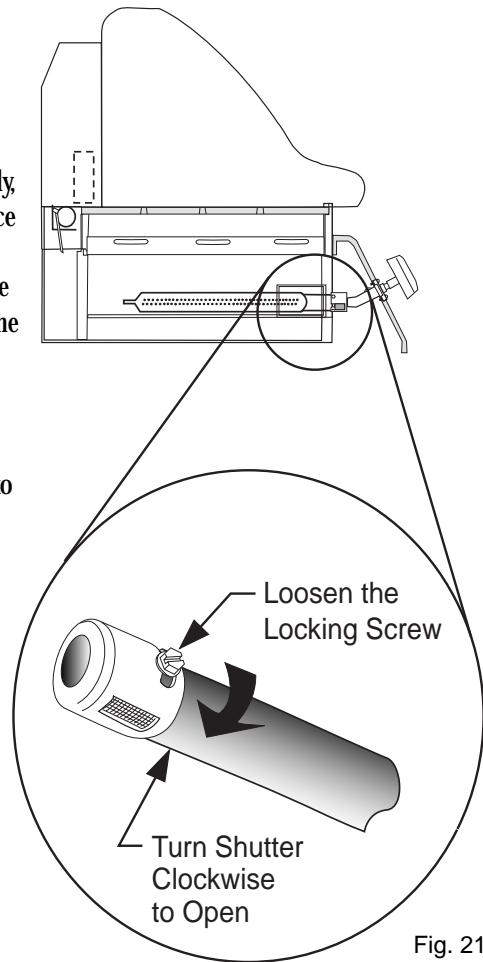

Fig. 21
**NOTE :** It may be necessary to adjust the burners periodically to compensate for variables in gas characteristics. If you notice that the burner flame pattern is irregular (see Figs. 9a, 9b & 9c) it may be necessary to adjust the air shutter opening at the front of the venturi tubes. The shutters are accessible under the control panel at the front of the Grill (see Fig. 21).